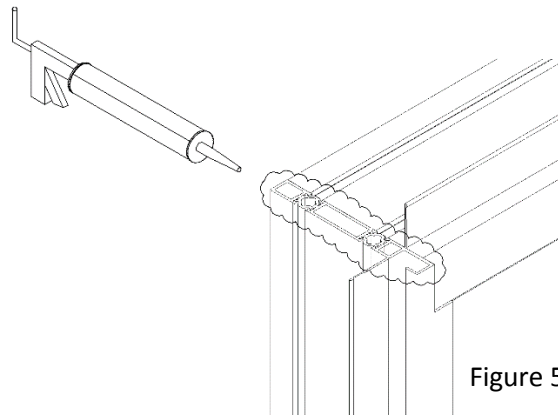

Figure 3b
7. Apply a continuous bead of sealant on the nail-fin (interior side as shown in figure 3a) around the perimeter of the frame shown in figure 3b. (Sealant should conform to AAMA 802.3-16 and 803.3-16).